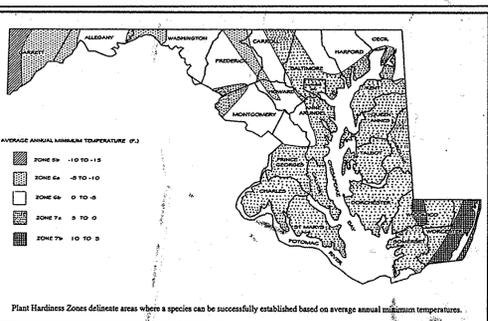

Figure B.3: U.S.A. Plant Hardiness Zones
- Select one or more of the species or seed mixtures listed in Table B.1 for the appropriate Plant Hardiness Zone (from Figure B.3), and enter them in the Temporary Seeding Summary below along with application rates, seeding dates and seeding depths. If this Summary is not part of the plan and completed, then Table B.1 plus fertilizer and lime rates must be put on the plan.
- Select one or more of the species or mixtures listed in Table B.3 for the appropriate Plant Hardiness Zone (from Figure B.3) and based on the site condition or purpose found on Table B.2. Enter selected mixture(s), application rates, and seeding dates in the Permanent Seeding Summary. The Summary is to be placed on the plan.